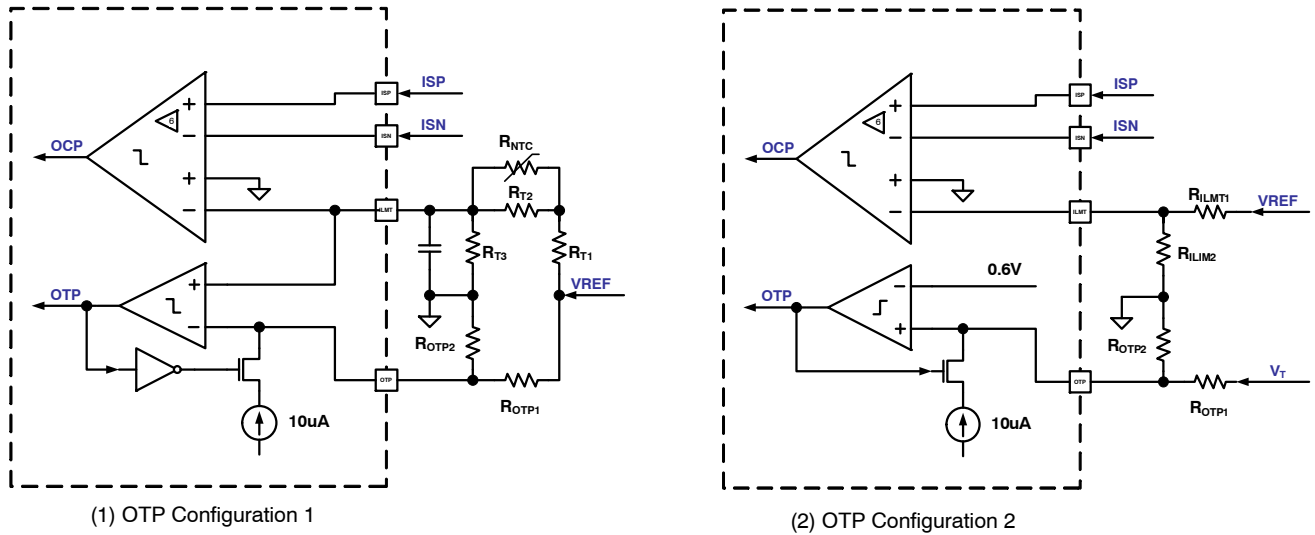

Figure 12. Over-Current Protection and Over-Temperature Protection
The over-current threshold can be externally programmed at the ILIM pin for each channel. As shown in Figure 12 (1), a NTC resistor  $R_{NTC}$  can be employed for temperature compensated over current protection. The peak current limit per phase can be calculated by
If no temperature compensation is needed, as shown in Figure 12 (2), the peak current limit per phase can be simply set by
With OTP Configuration 1, as shown in Figure 12 (1), the NTC resistor  $R_{NTC}$  senses the hot-spot temperature and changes the voltage at ILMT pin. Both over-temperature threshold and hysteresis are externally programmed at OTP pin by a resistor divider. Once the voltage at ILMT pin is higher than the voltage at OTP pin, OTP trips and the channel is shut down. The channel will have a normal start up after a hiccup interval in condition that the temperature drops below the OTP reset threshold. The OTP assertion threshold  $V_{OTP}$  and reset threshold  $V_{OTP\_RST}$  can be calculated by
With OTP Configuration 2, as shown in Figure 12 (2), the NCP81234 receives an external signal  $V_T$  linearly representing temperature and compares to an internal 0.6 V